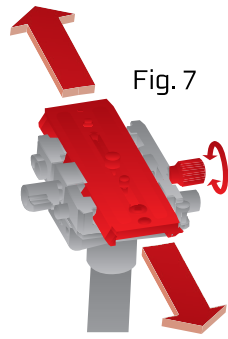

Fig. 7
- a. Use the forward/backward and left/right adjustment knobs to fine-tune the camera's position on the sled. (Fig. 7/8)